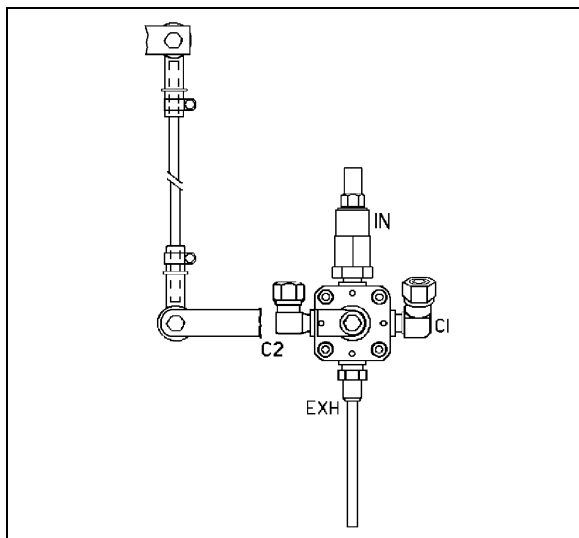

FIGURE 49: FRONT HEIGHT CONTROL VALVE
4. Loosen the clamp on the height control valve rubber coupling and bring it up or down (Figure 49).